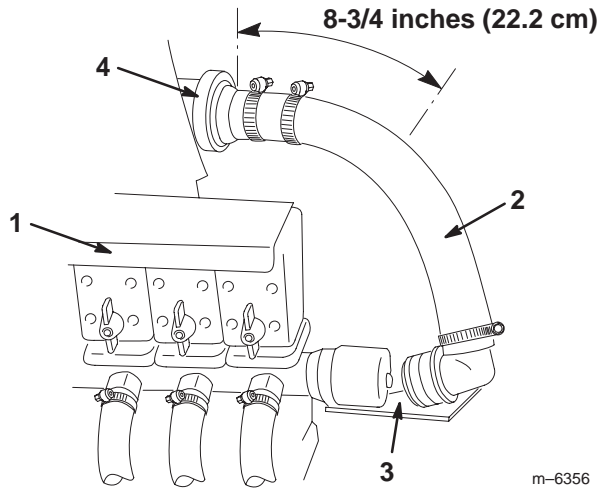

Figure 4
1. Remove the retainer securing the end of the boom supply hose connected to the tee located to the right of the boom supply valves and disconnect it (Fig. 4).
2. Cut the boom supply hose 8-3/4 inches (22.2 cm) to the right of the flow meter (if equipped) or 32 inches (81 cm) from the supply tee (located directly behind the boom valves) using a hacksaw (Fig. 4). Remove the hose clamp from the loose end and discard the hose and fitting.